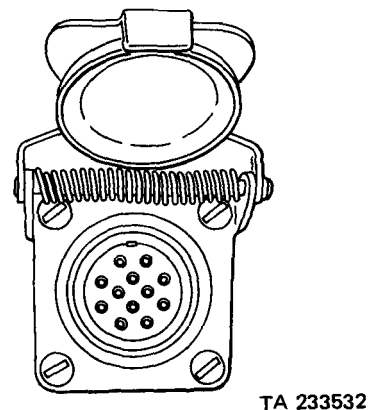

Figure 2-5. Intervehicular cable receptacle (M127 and M127A1)
- c. M127 and M127A1 semitrailers have a 24-volt receptacle only (figure 2-5).